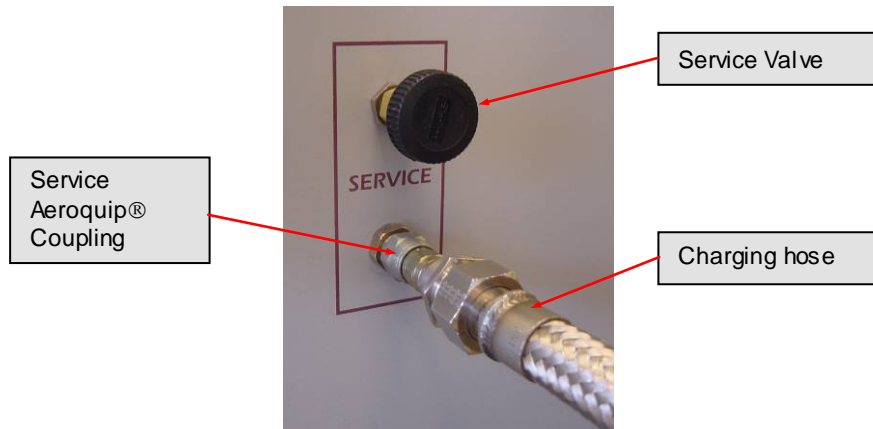

Figure 8-2: Service valve and access port
- 1) Make sure the service valve is closed. See Figure 8-2.